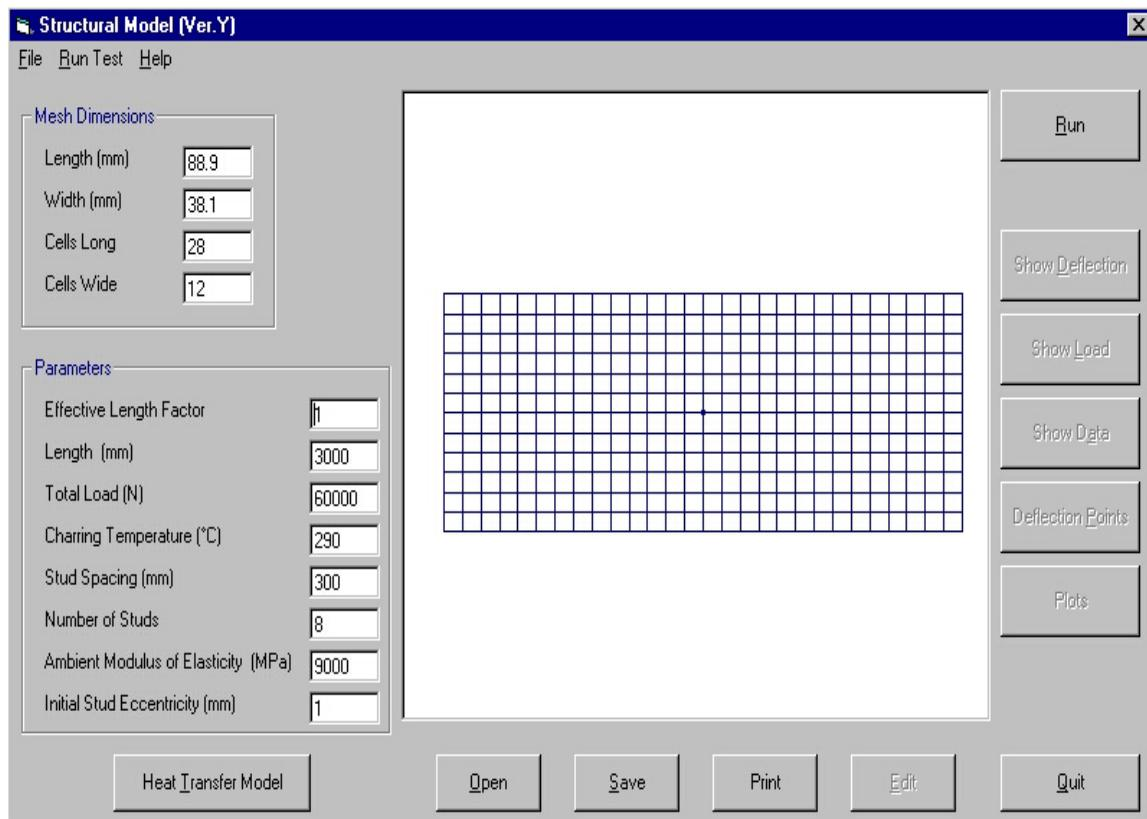

Figure 3.11. Main Screen with Database Loaded
4. Click on Exit (Figure 3.10) to return to the Main Screen (Figure 3.11).